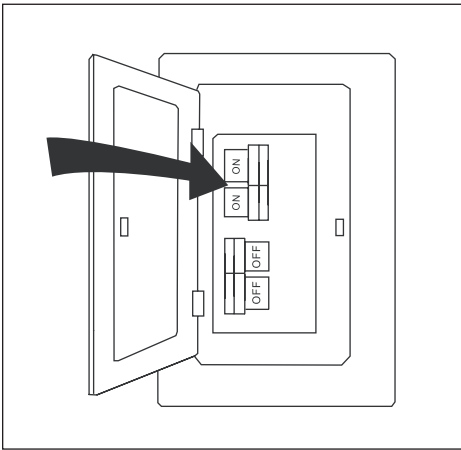

Figure 5.13
13. Turn on power to fan at breaker box and the wall switch. Assembly is complete (Figure 5.13).